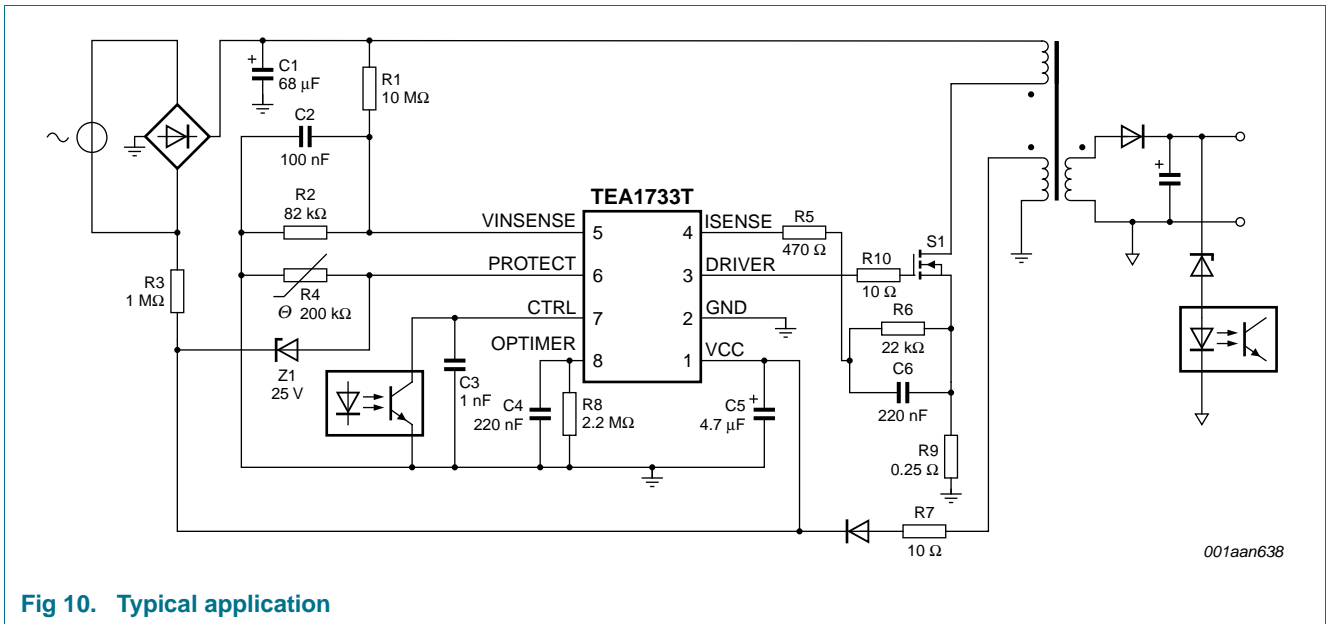

Fig 10. Typical application
A power supply with the TEA1733T is a flyback converter operating in Continuous conduction mode (See Figure 10).
In the example shown in Figure 10, the PROTECT pin is used for OVP and OTP. The OVP level is set by diode Z1 to  $V_{CC} = 25.8\text{ V}$ . The OTP level is set by Negative Temperature Coefficient (NTC) resistor R4. The VINSENSE pin is used for mains voltage detection and resistors R1 and R2 set the start voltage to about 80 V (AC). The overpower protection time is defined by capacitor C4 is set at 60 ms.